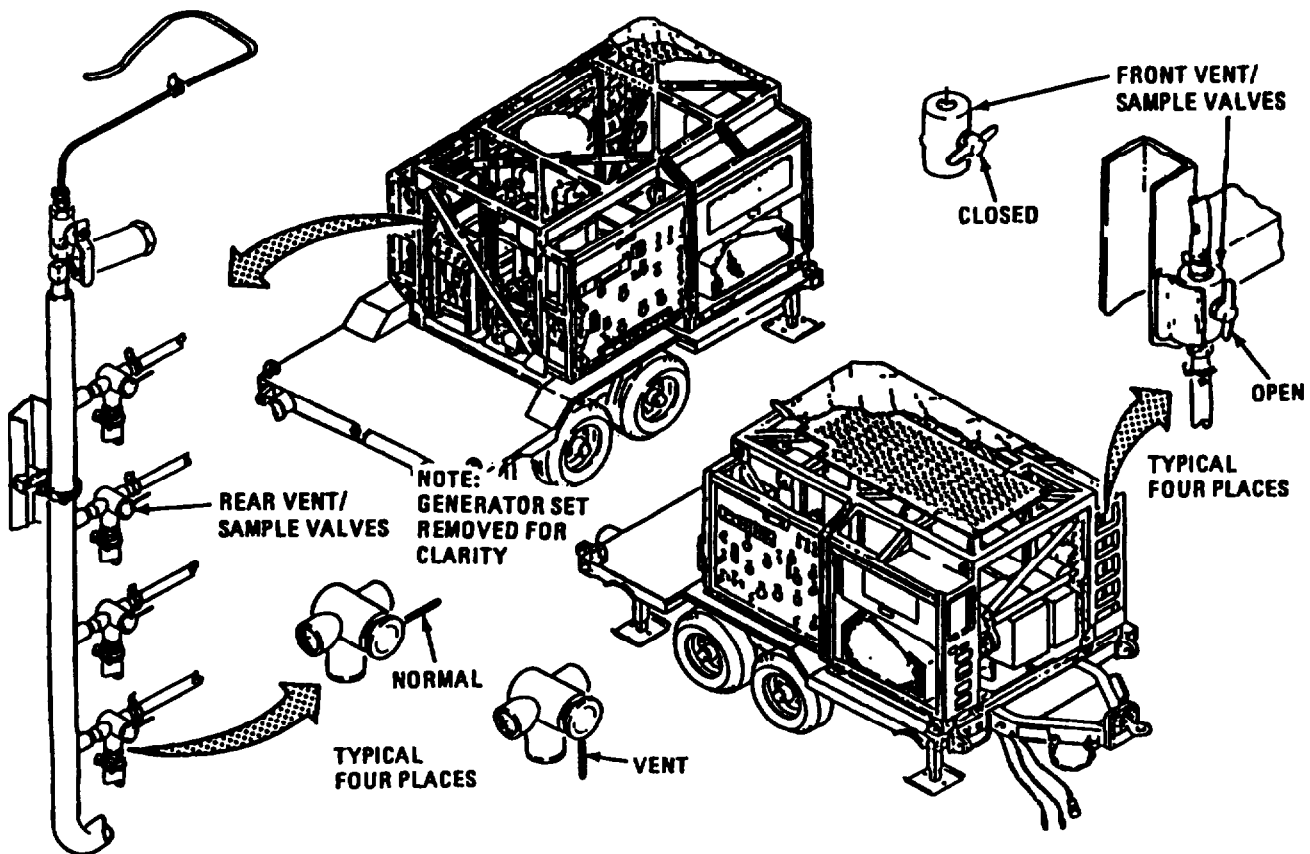

Figure 2-47. R.O. Tube Vent/Sample Valves.
- e. R.O. Pressure Tube Vent/Sample Valves. Refer to figure 2-47.